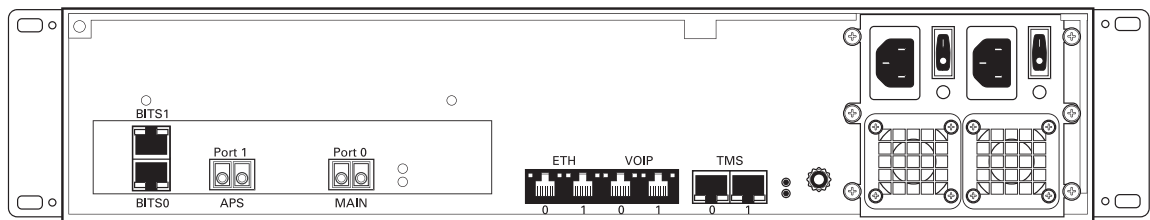

Figure 2.7 3200-STM1 Optical Interface to the PSTN
A 3200-STM-1, with one main and one backup OC3 or STM1 port enables connection to OC3/STM1 lines. See figure 2.7 on page 24. Refer to table 2.3 on page 24 for a listing of optical interfaces. The default SFP module for OC3/STM1 connection is SMF, intermediate reach, (SFP-OC3-IR1) 1310 nm with LC type connectors.
1. Connect a fiber optic cable between the Port 0 (Main) port and OC3/STM1 line, as shown in figure 2.7 on page 24.